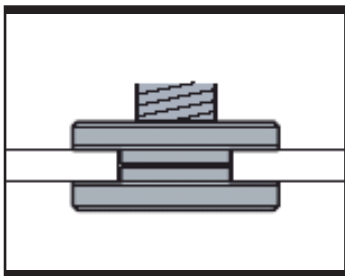
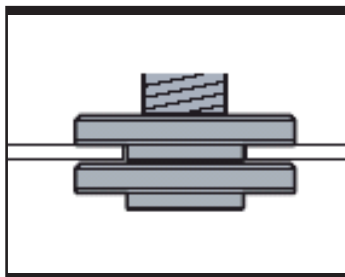

Fig. 3-1
Fig. 3-2
The outer flange (5) should be adjusted to suit different disc thickness. For thinner cutting discs the raised part of the outer flange is fitted facing away from the disc (See Fig.3-1). For thicker grinding discs the raised part of the outer flange is fitted facing towards the disc to provide improved support for the disc hole (See Fig.3-2). Always ensure your disc is securely clamped.